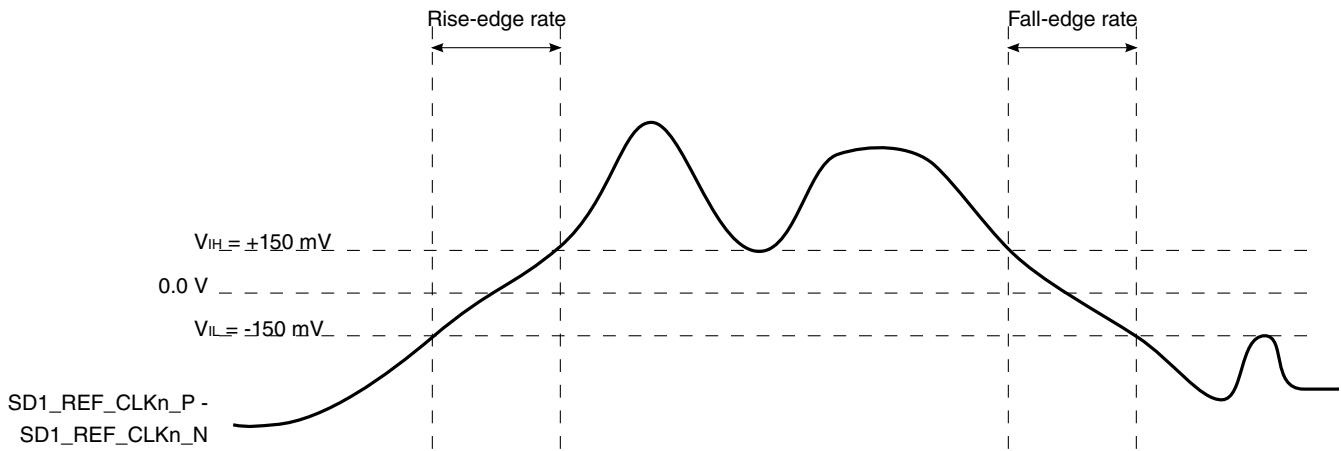

Figure 66. Differential measurement points for rise and fall time
9. Measured from -150 mV to +150 mV on the differential waveform (derived from SD1_REF_CLKn_P minus SD1_REF_CLKn_N). The signal must be monotonic through the measurement region for rise and fall time. The 300 mV measurement window is centered on the differential zero crossing. See Figure 66.